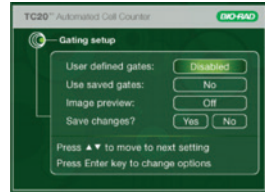

Fig. 19. Disabling user defined gates.
6. Arrow down to **User defined gates** and press **Enter** until **Disabled** is selected (Figure 19).